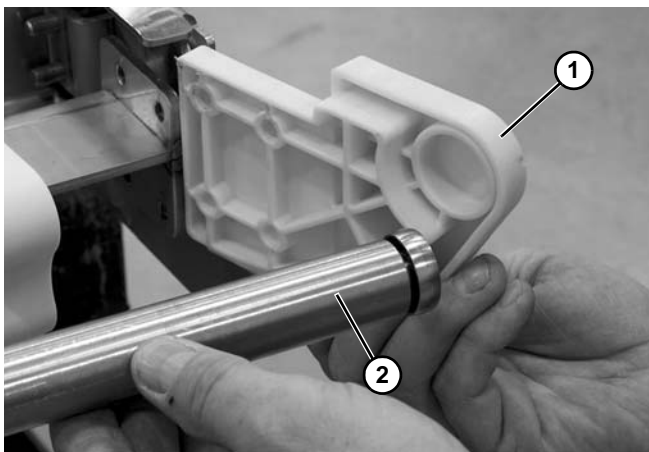

Figure 68
3. Remove headplate (Figure 68, item 1) and idler spindle assembly (Figure 68, item 2).